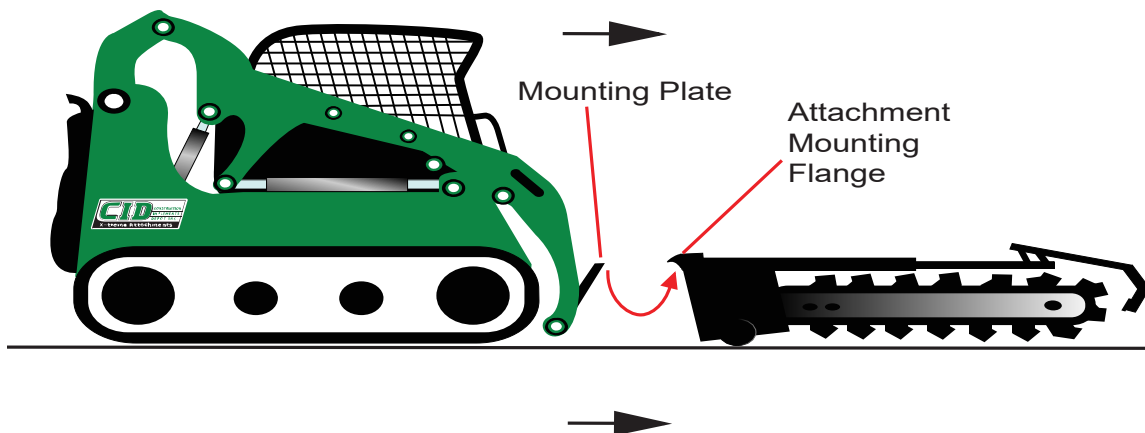

Figure 3.3a Skid Steer Mounting Plate to Attachment Mounting Flange
2. Drive forward and place top of skid steer mounting plate under the attachment mounting flange. See Figure 3.3a below.